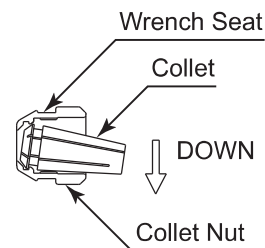
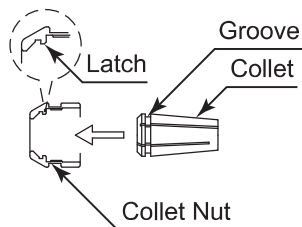
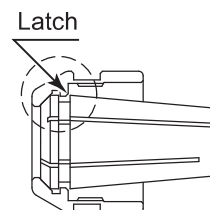

Fig. 12
Fig. 13
Fig. 14
- ② The collet and collet nut are secured by a groove in the collet and a flange in the collet nut. To remove the collet hold the collet nut in one hand and push diagonally down on the collet. The collet should be released (Fig. 12).
- ③ To install the collet, hold the collet at a slight angle, and insert it into the collet nut (Fig. 13). Press the collet in the collet nut by positioning the collet in the collet nut and pressing down on flat surface (Fig. 12). Be sure to fully engage the latch inside the collet nut into the groove on the collet's outer circumference area (Fig. 14).